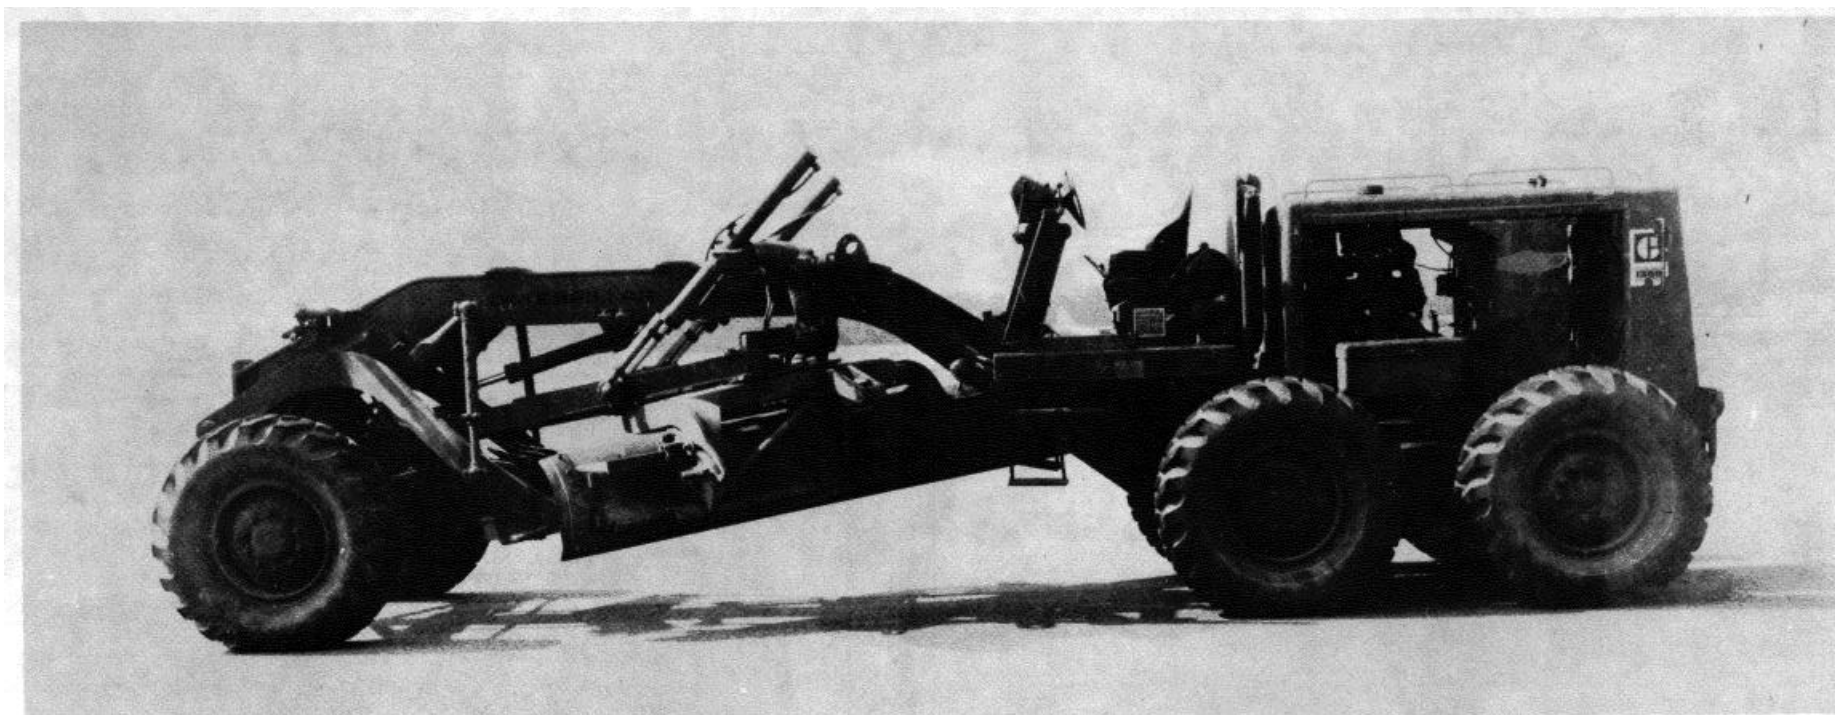

Figure 4-5. Model 130G Types I and II grader prepared for shipment in Air Force cargo aircraft.
- (i) Figure 4-5 shows the model 130G grader prepared for transport in C-130/C-141 aircraft.